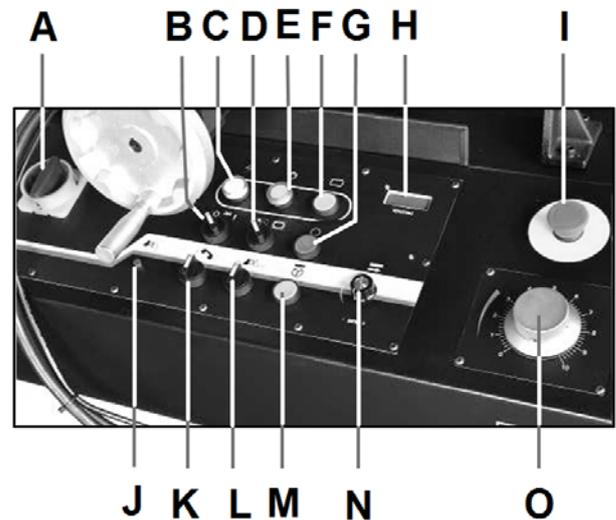

Figure 7-1: Machine Controls
- If the blade gets stuck in the cut, press the emergency stop button (I, Fig 7-1) immediately to switch off the machine. Open the vice slowly, remove the part and check that the blade or its teeth are not broken. If they are broken, change the blade.
Rotate knob (N, Fig 7-1) to set the blade speed.
Connect the machine to power source. Turn the main switch (A, Fig 7-1) on. The power lamp (B) will be lit.
1. Press button (E) to start the hydraulic pump.
If vise clamping fails, the lamp (J, Fig 7-1) is lit.
Connect the machine to power source. Turn the main switch (A, Fig 7-1) on. The power lamp (C) will be lit.